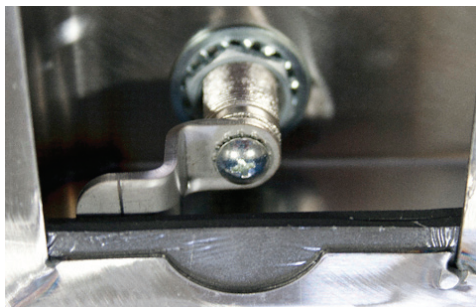

Fig. 42: Assembled Cam Lock with Felt Adhesive Strip
14. Insert the purchased Felt Adhesive Strip (ST0014) between the Cam Lock Latch and the header. Position it to keep the cam lock latch from falling down when the key is in the lock (Fig. 42). When activating the lock, the latch will rub the felt strip.